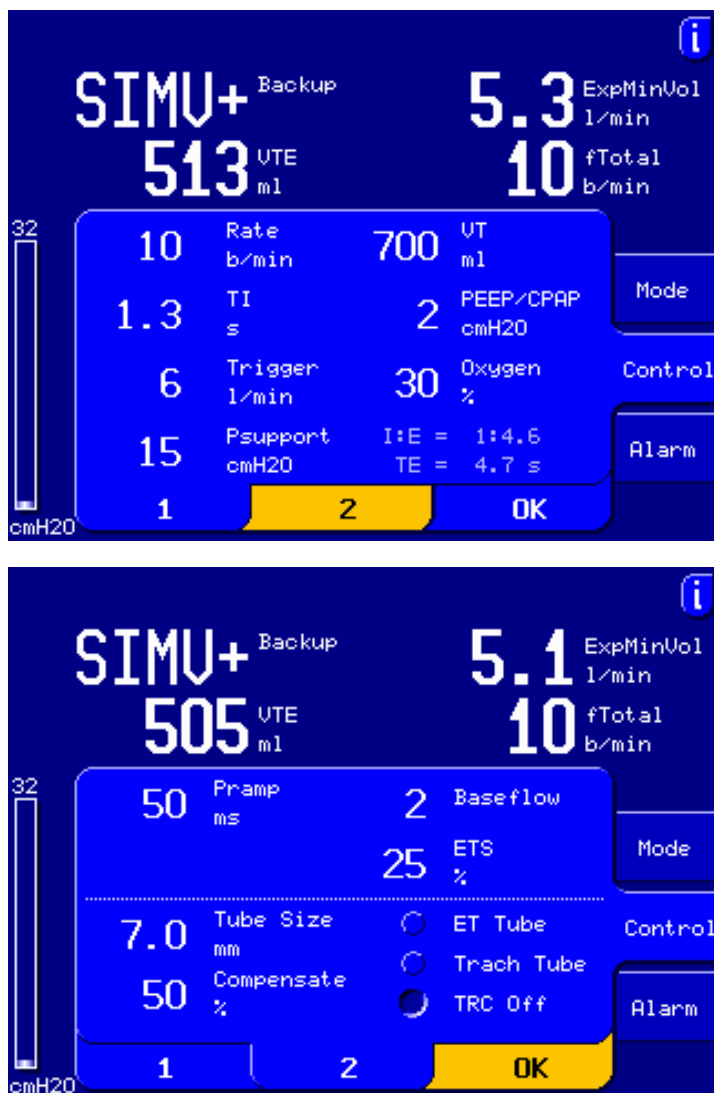

Figure B-8. SIMV+ control windows
In the SIMV+ mode, the mandatory breaths are (S)CMV+ breaths. These can be alternated with SPONT breaths. The control settings active in the SIMV+ mode are shown in Figure B-8.